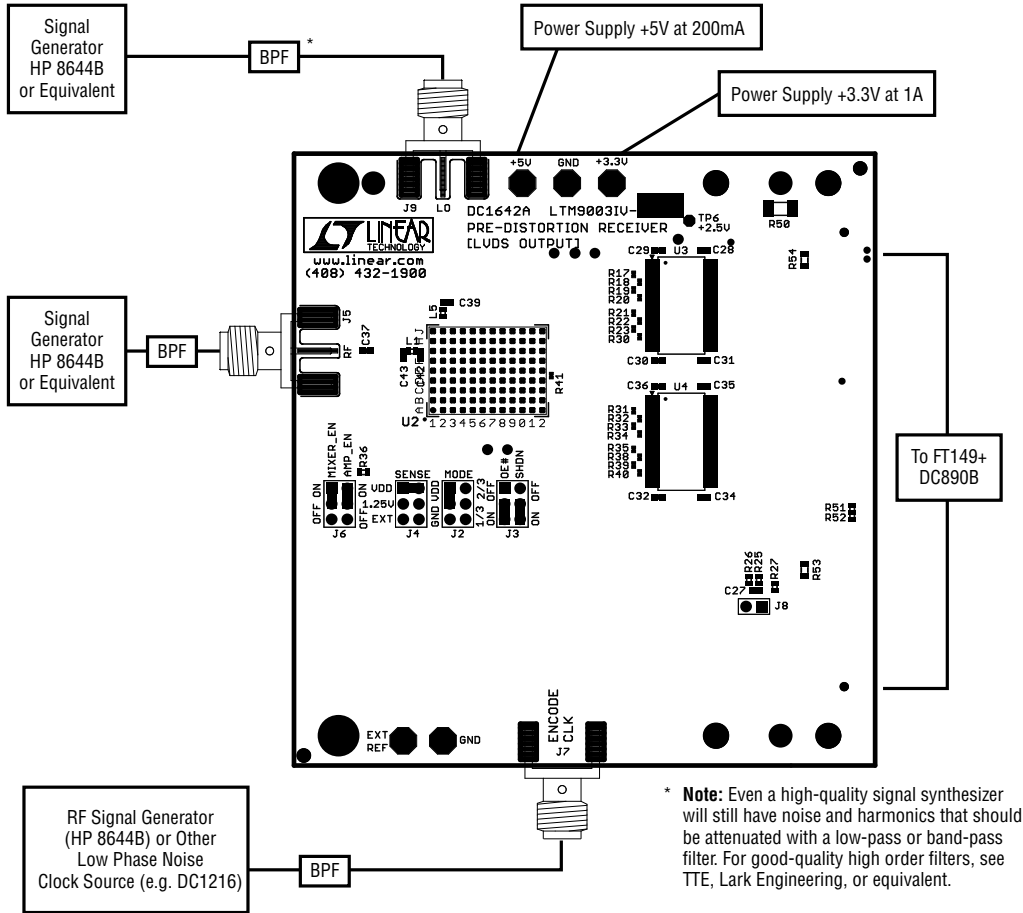

Figure 1. Proper Measurement Equipment Setup
Validating the performance of the LTM9003 is simple with DC1642A, and requires only two input sources, a clock source, a computer, and a lab power supply. Refer to Figure 1 for proper board evaluation equipment setup and follow the procedure below:
1. Connect the power supply as shown in Figure 1. There are on-board low-noise voltage regulators that provide the supply voltage for the DC1642A. The entire board and all components share a common ground. The power supply should still be a low-noise lab power supply capable of supplying at least 1A.